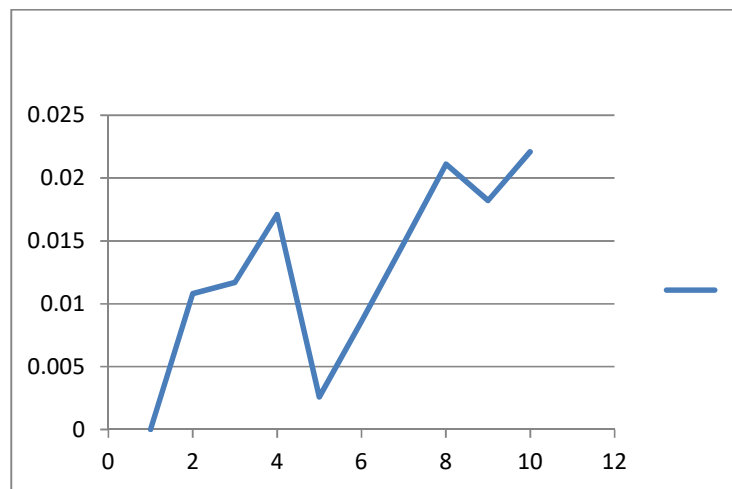

Fig.4. The relative error chart by polynomial mathematic model.
value is only 0.01ohm and REV% is 0.26% and the total average REV% is 1.41% , so it can be resulted, the calculation result of formula (3) is very close to the actual value of internal resistance of battery pack. Figure 4 is relative error chart by polynomial mathematic model.